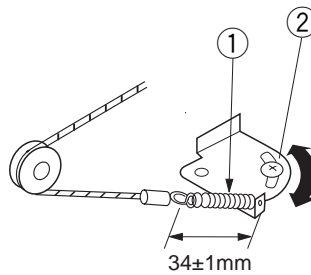

Figure 10-216
Move the tension plate and tighten the screw ② so that the distance across the ends of the cable spring ① is 34 ± 1 mm as indicated in Figure 10-216.